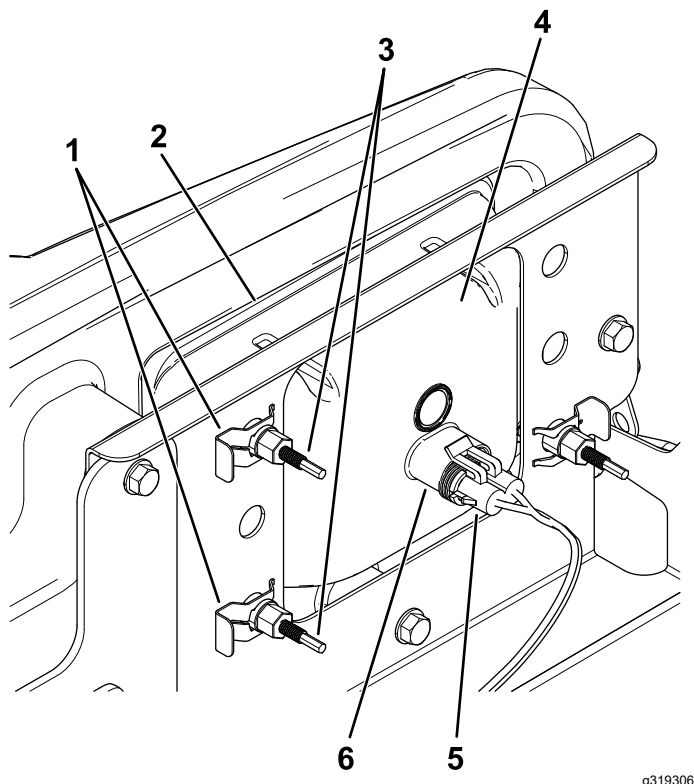

Figure 45
3. Disconnect the electrical connector for the harness from the connector of the lamp assembly (Figure 45).
4. Remove the speed clips that secure the headlight to the headlight bracket (Figure 45).
5. Remove the headlight assembly by moving it forward through the opening in the front bumper (Figure 45).
6. Install the new headlight through the opening in the bumper (Figure 45).
8. Connect the electrical connector for the harness to the connector of the lamp assembly (Figure 45).
5. At the back of the headlight assembly, rotate adjustment screws (Figure 45) to pivot the headlight assembly and align the position of the cast beam.